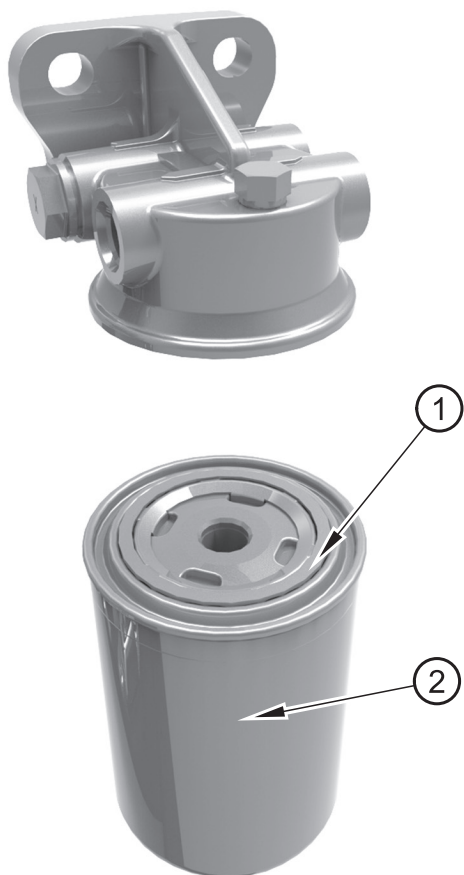

Figure 27
3. Use a chain wrench in order to remove old canister (figure 27 item 2).
4. Lubricate the 'O' ring seal (item 1) with clean engine oil on the new canister. Install the new canister.